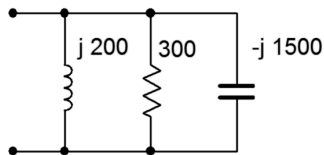

Figure 3.5
5. Determine the effective impedance of the network shown in Figure 3.5.
6. Determine the effective impedance of the network shown in Figure 3.5 if the frequency is halved and if the frequency is doubled.